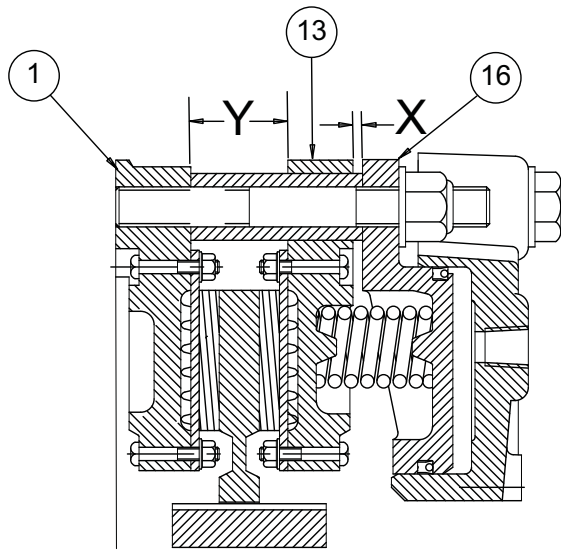

Figure 7 : 136WCSEP - "X" & "Y" gap locations for single disc
With all air pressure exhausted from the cylinder, measure the "X" gap between the spring housing (16) and the pressure plate (13) and also the gap "Y" between the pressure plate (13) and the mounting flange (1) as shown in **Figure 7**. If either gap has reached the limits shown in Table 10, the friction discs and/or wear plates must be inspected to ensure that the wear limits listed in Table 13 have not been exceeded.
Refer to Figs. 7, 8, 9 & 10